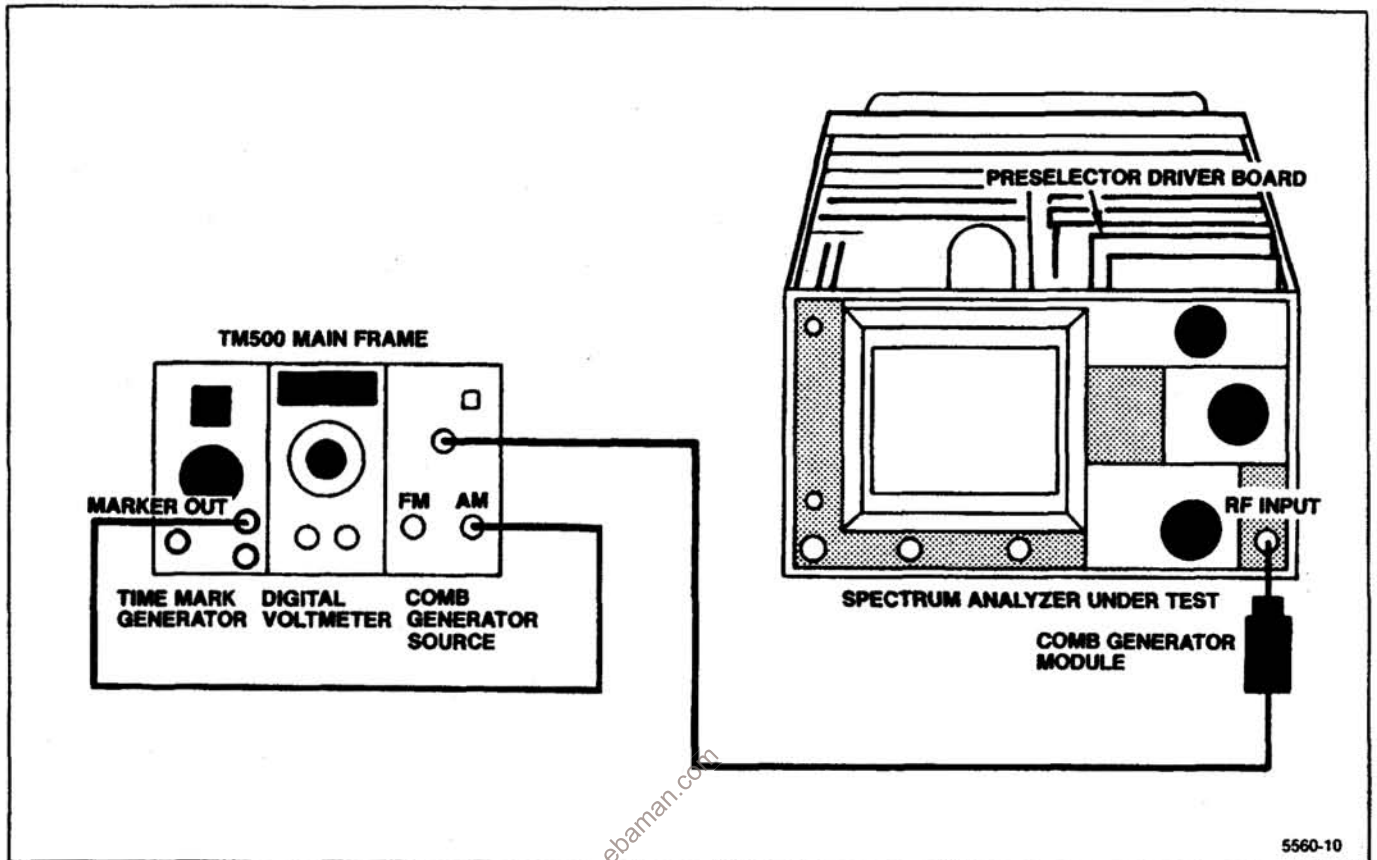

Figure 5-21. Preselector Driver adjustment setup.
a. Connect the test equipment as shown in Figure 5-21.